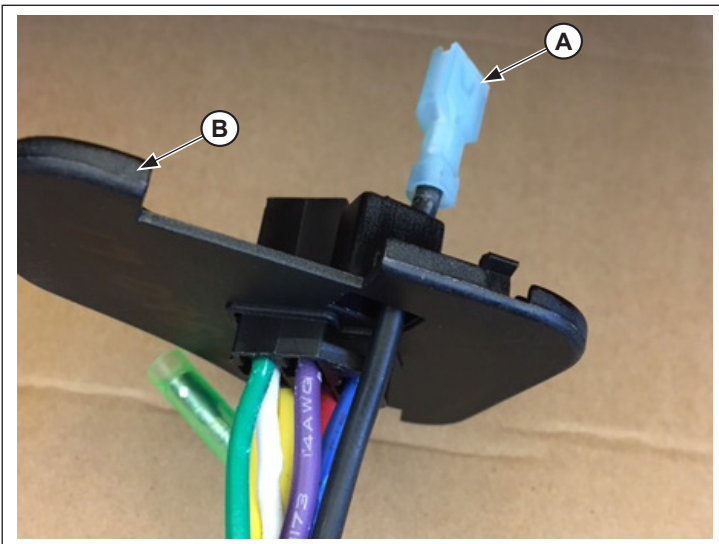

Figure 1. Insert New Harness.
2. Slide the new harness (A) thru the key box cover (B). See Figure 1.